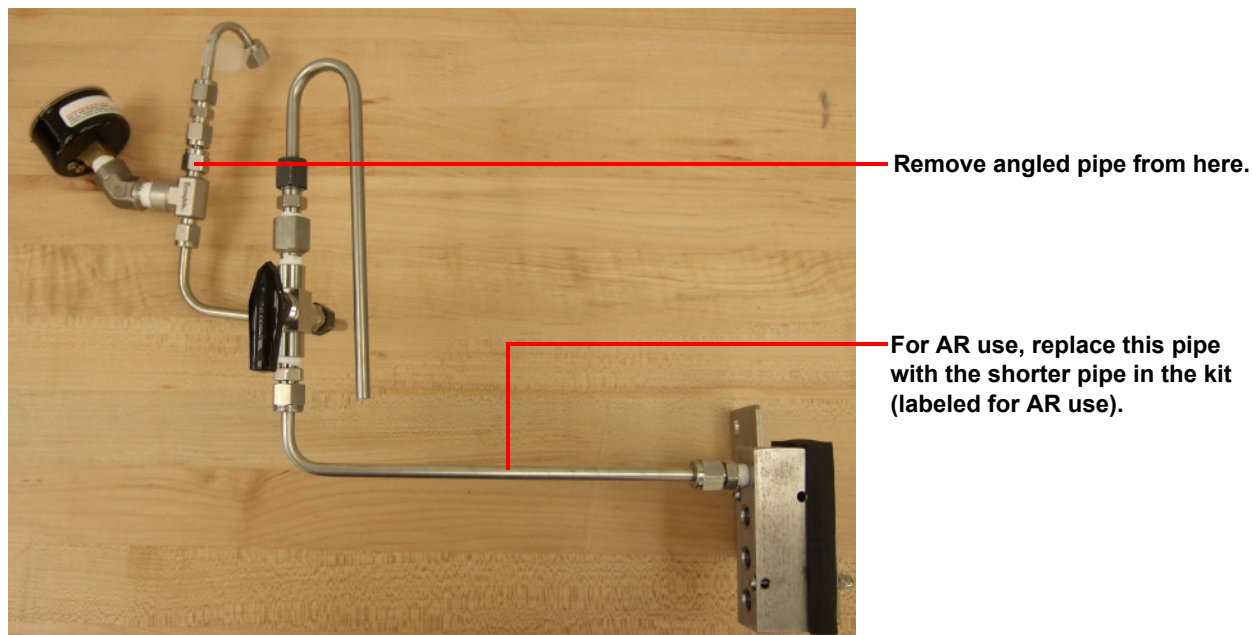

Figure 10 Manifold assembly.
Step 2: Unpack the preassembled piping manifold assembly. Using a wrench, remove the furthest extending angled pipe (shown in Figure 10 below) from the Tee fitting joining the gas inlet and pressure gauge.